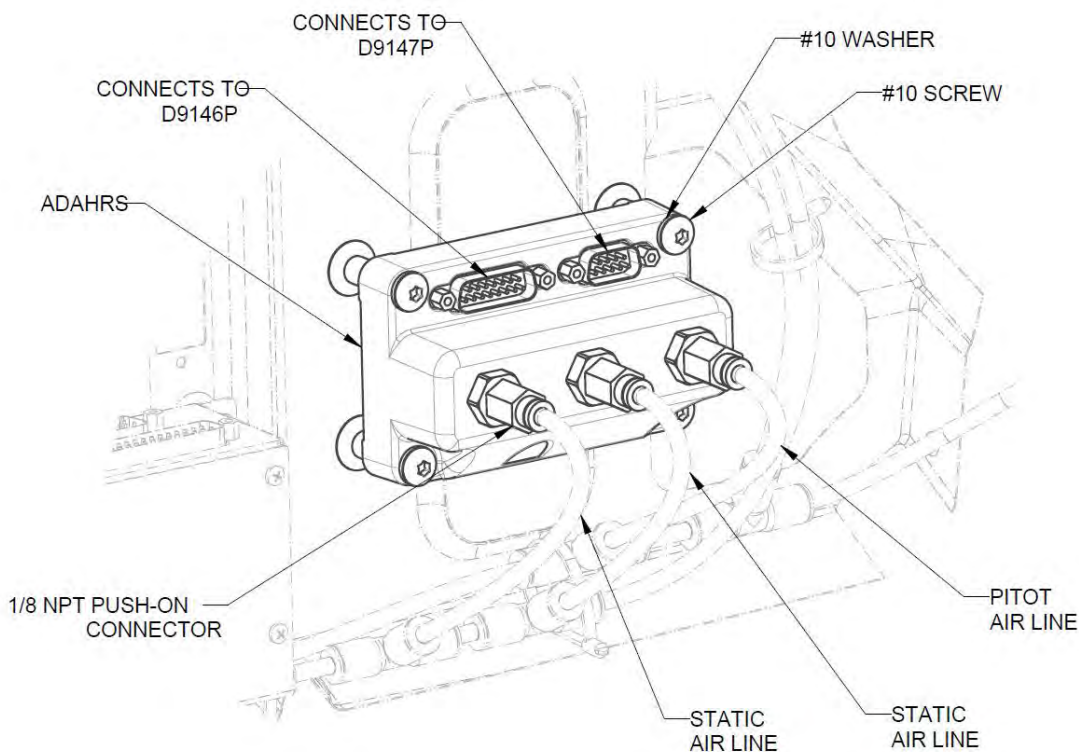

FIGURE 14-40
4. Disconnect 2x Static Air Lines and 1x Pitot Air Line. (See Figure 14-40.)
4. Position the ADAHRS in the orientation shown in Figure 14-40.
6. Connect 2x Static Air Lines and 1x Pitot Air Line as shown in Figure 14-40.